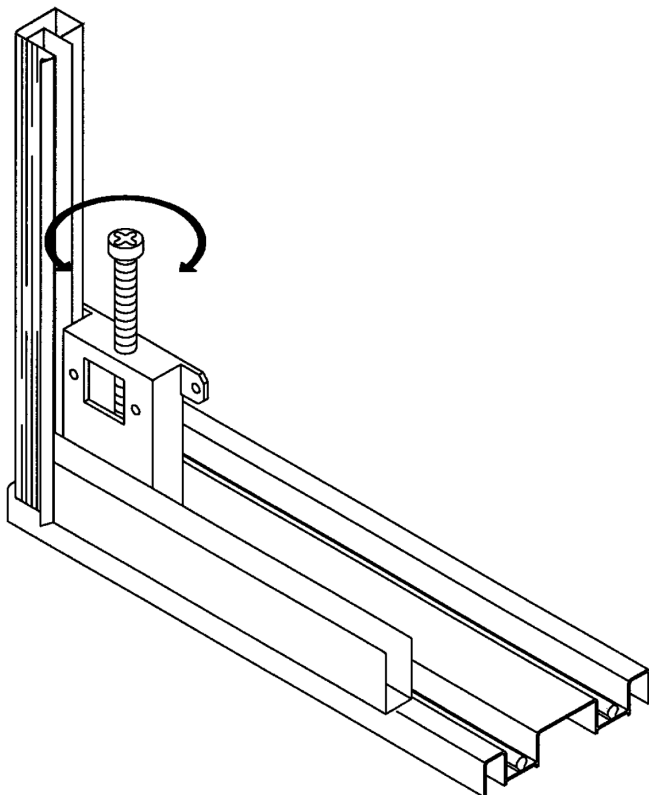

Figure 4
- A. Slide the front Mirrored Glass Panel (#1) to the side closest to the room's entrance door (This is how the Mirrored Glass Panels (#1) will be in position to look their best). Look at the space between the door edge and the wall. You want the door edge and the wall to be flush. If you see space at the top or bottom edge of the Mirrored Glass Panel (#1), turn the adjustment screw on top of the Steel Wheel Assembly (#12) on the lower back of the Mirrored Glass Panel (#1) nearest the wall. Turn the screw left or right until the Mirrored Glass Panel (#1) aligns flush with the wall (See Figure 4).